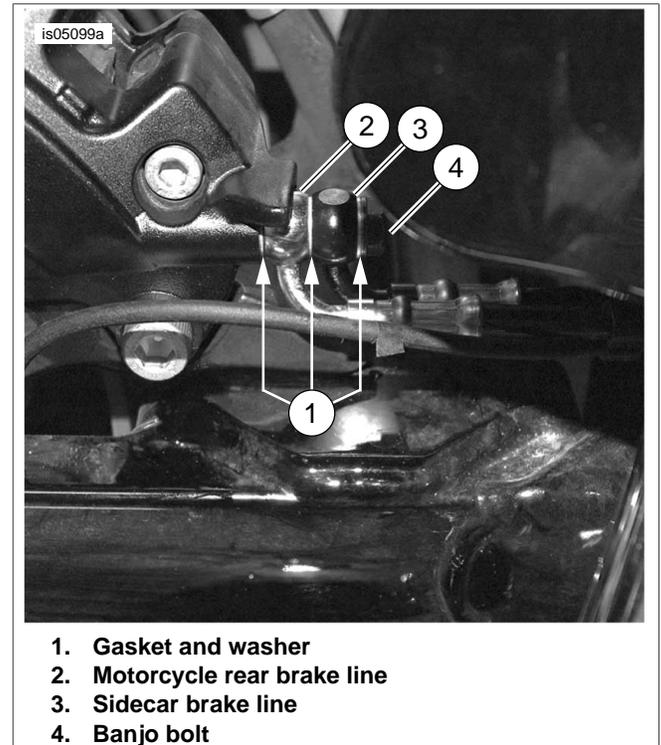

Figure 14. Brake Line Stack Up
2. See Figure 14. The sidecar and motorcycle rear brake lines stack up on the rear caliper using a double stack banjo bolt (4).
3. Install a gasket washer (1) on double stack banjo bolt (4).
5. Install second gasket washer (1).
7. Install third gasket washer (1) and install bolt into caliper.
8. See Figure 14. Position brake lines as shown and tighten the banjo bolt to 19-22 ft-lbs (26-30 Nm).